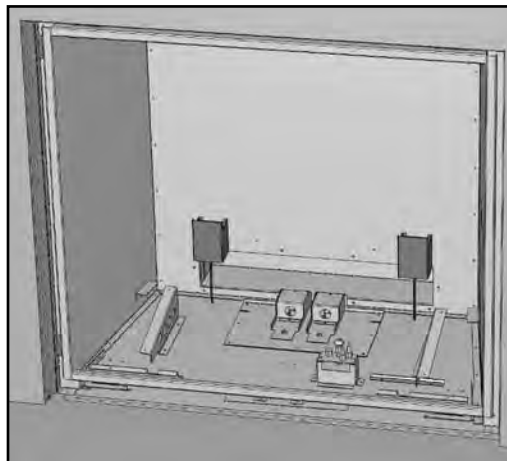

Figure 96: Porcelain Light Covers in Place.
3. Ensure the light covers provided with your kit are installed on the Light Cover Bases at the rear of the firebox. The tabs on the back of the Light Cover slide down behind the light cover base. Refer to Figures 96 and 97.
1. Install the porcelain Light Covers over the Light Cover Base. The tabs on the back of the Light Cover slide down behind the Light Cover Base. Refer to Figures 96 & 97.